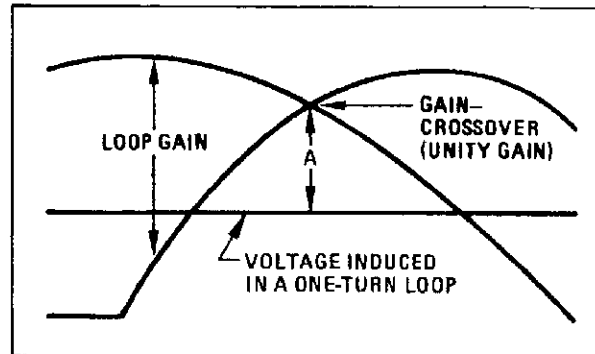

Figure 5-15.
6. Press the single sweep key. Check that the gain-crossover frequency is  $20 \pm 2$  kHz. If the gain-crossover frequency is not correct, A3A9A4R20 must be changed to set the correct frequency; otherwise, this adjustment is complete. See figure 5-15.